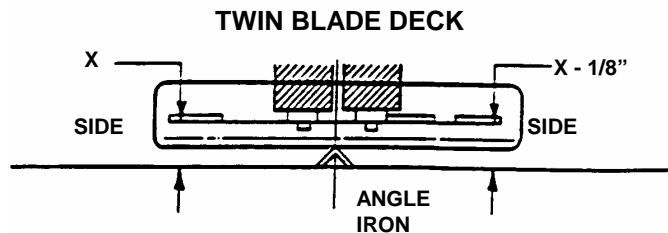

FIGURE 4.7
- e. Measure the distance from blade tips to floor. If the measurement is within $1/8"$ from side-to-side, the deck levelness is satisfactory. If the difference from side-to-side is greater than $1/8"$, continue to the next page for adjustment. See Figure 4.7.